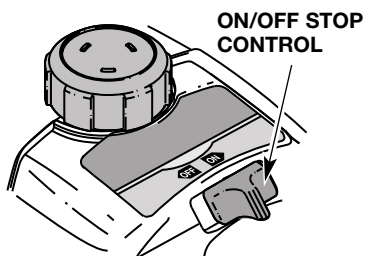
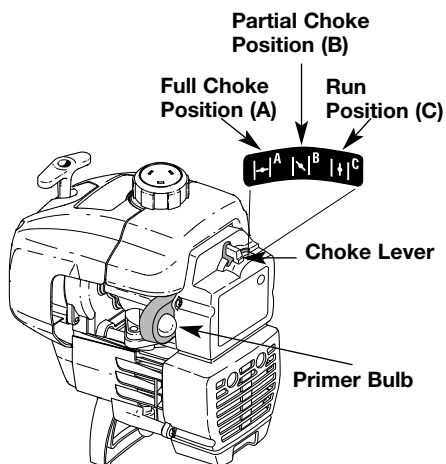

Fig. 9
Fig. 10
2. Put the On/Off Stop Control in the **ON** position (Fig. 9).
3. Fully press and release primer bulb 5 to 7 times. Fuel should be visible in the bulb (Fig. 10).
4. Place the choke lever in the **FULL** choke position (**A**) (Fig. 10).
6. Place the choke lever in the **PARTIAL** choke position (**B**) (Fig. 10).
**NOTE:** If the engine floods while trying to start, place the choke lever in the **RUN** position (**C**). Squeeze the throttle control. Pull the starter rope briskly. The engine should start within three (3) to eight (8) pulls.
9. Squeeze the throttle control to warm up engine for 5 to 10 seconds. Place the choke lever in the **RUN** position (**C**) (Fig. 10).
**NOTE:** Choking is unnecessary when starting a warm engine. Put the On/Off Stop Control in the **ON** position (Fig. 9), and start in **PARTIAL** Choke position (**B**) (Fig. 10).
2. Put the On/Off Stop Control in the **STOP** position (Fig. 9).